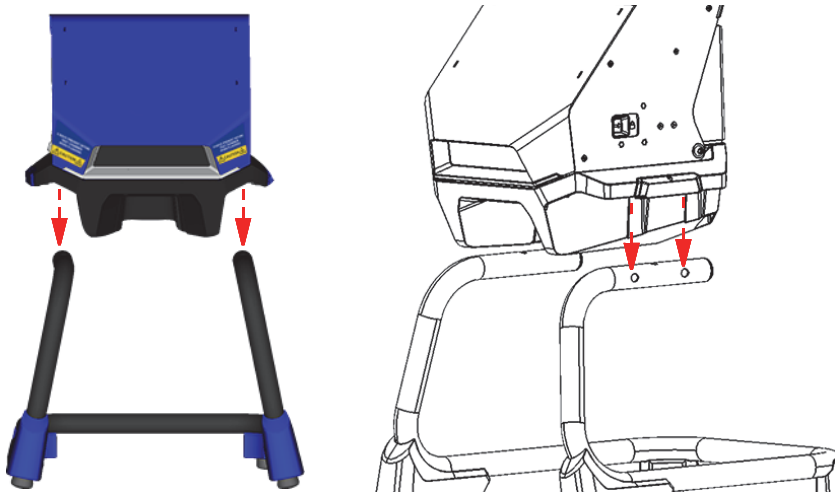

Figure B-7 Work Station chamber positioned over legs
2. Lift the Work Station chamber and position it over the legs (see Figure B-7 on page 113).